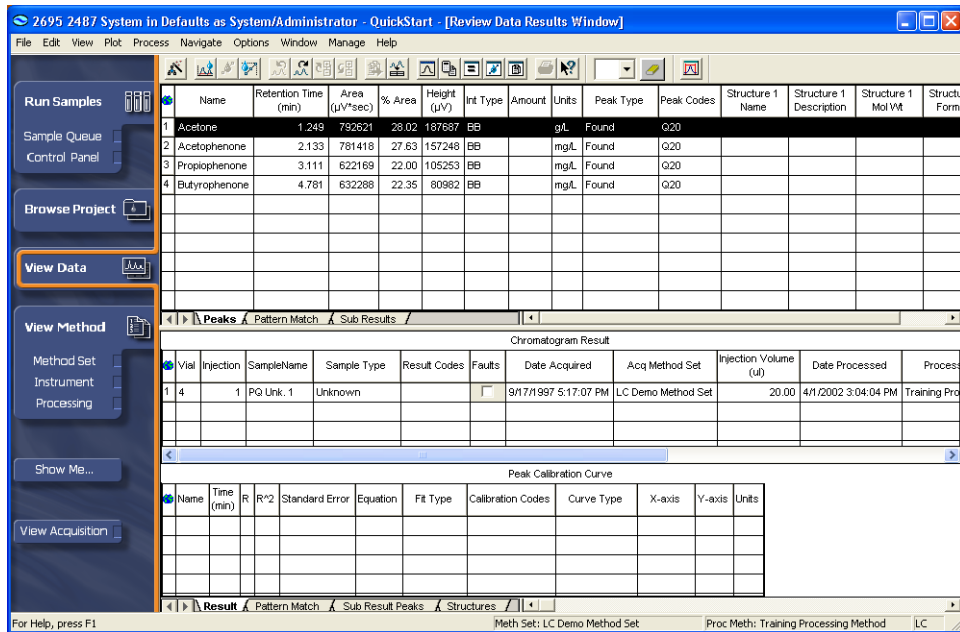

Figure 6-14 Results Window
- Click  (Results). The Results window appears (Figure 6-14). The Results window in Review displays a detailed list of results such as the peak results, calibration curve information associated with the peak, and information related to the entire chromatogram.